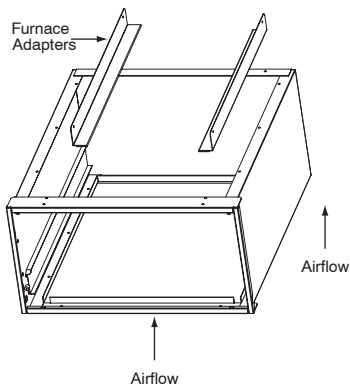

Fig. 5 - Use of Furnace Adapters
- Furnace adapters have been included for installer convenience. They are designed for top or bottom mount installations (see Fig. 5).